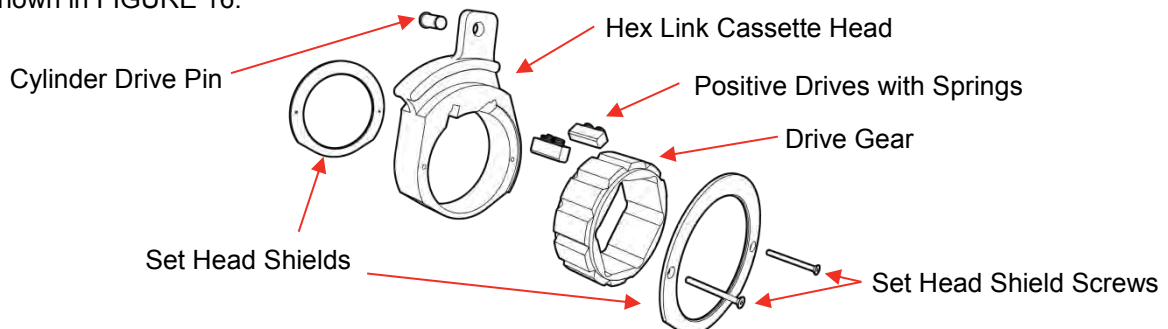

FIGURE 16 – Hex Link Cassette Components
3. Clean and lubricate all components of the Hex Link Cassette and inside walls of the tool. See below sections on cleaning and lubrication for further guidance. Components of the Hex Link Cassette are shown in FIGURE 16: